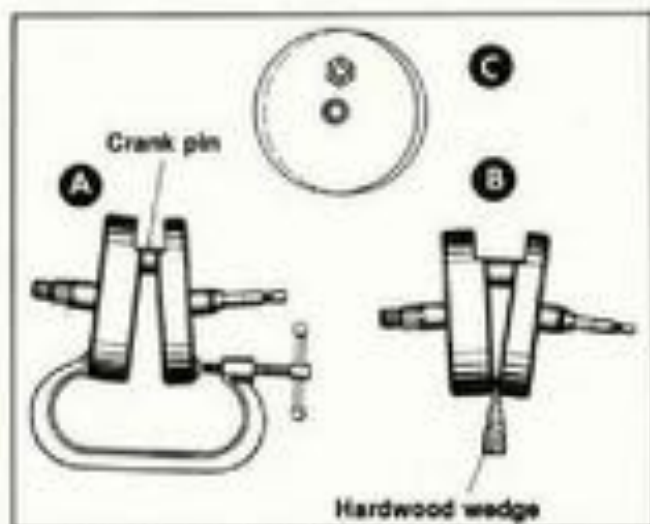

Figure 3-50. Correcting Flywheel Alignment
12. Flywheel may be out of true three ways, A, B and C, in Figure 3-50 or a combination of two of the three ways.